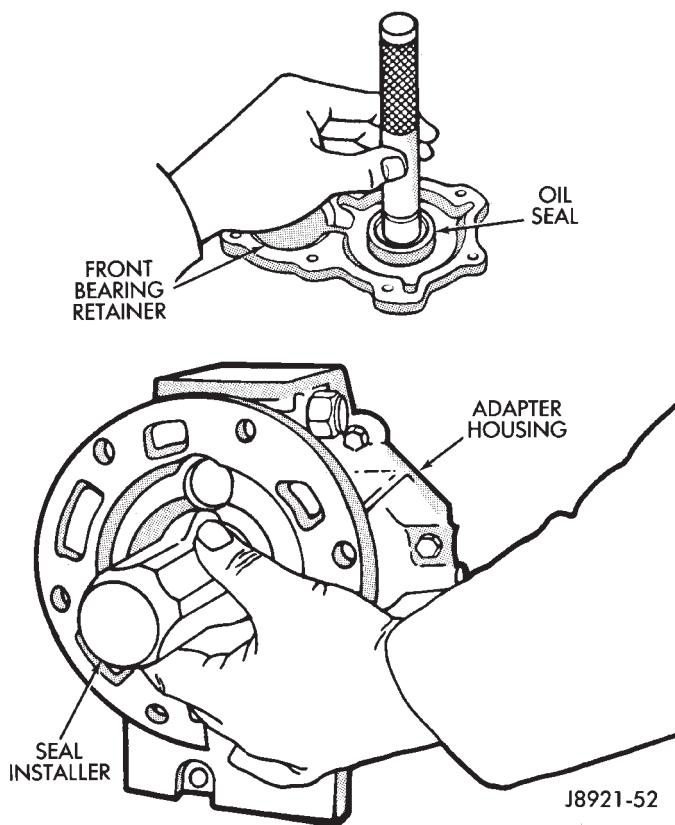

Fig. 72 Oil Seal Installation
(3) Install new oil seals in front bearing retainer and adapter housing (Fig. 72). Installation depth for bearing retainer seal is 10.5 to 11.5 mm (0.414 to 0.453 in.).